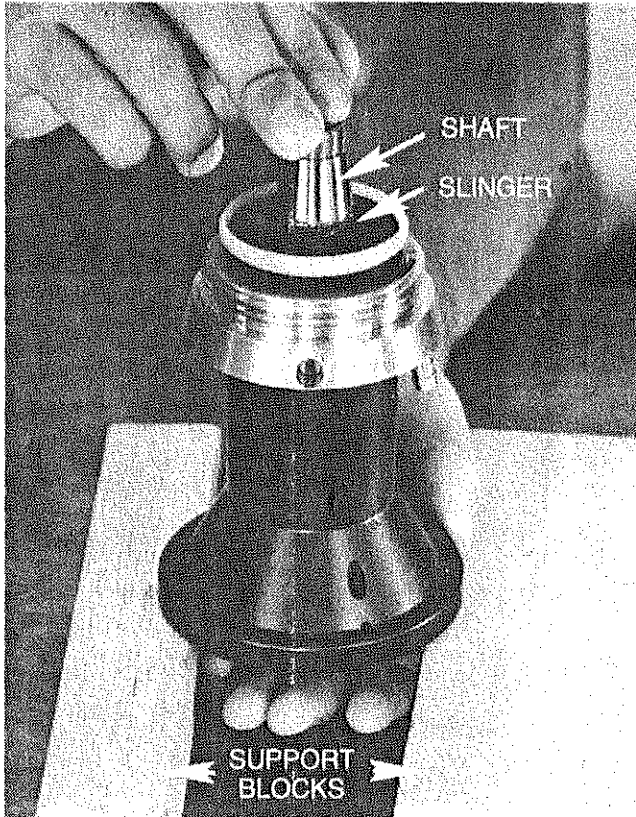

FIG. 11
8. Place turbine (rear down) on 1½" aluminum or hardwood blocks. Protect bottom of shaft from impact. Press shaft downward by hand and remove shaft, rear bearing, thrust bearing, shaft spacer and bearing spacer. If hand force is not sufficient, use a small arbor press (do not strike shaft). Note once the shaft is removed, the front bearing is held inside the turbine only with O-rings and may fall out. Use caution when handling the shaft and bearings. When the shaft is removed, the slinger will be free (Fig. 11).